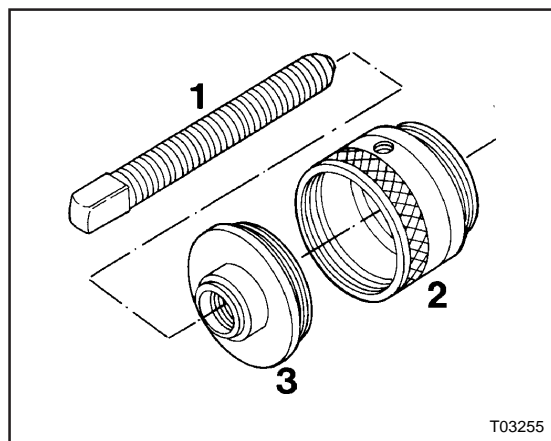

Figure 3: Tool set to remove hub
4. Use tool set from Figure 3 to
(2, Figure 3) into hub.
- b. Screw cover (3, Figure 3)
- c. Screw spindle (1, Figure 3)